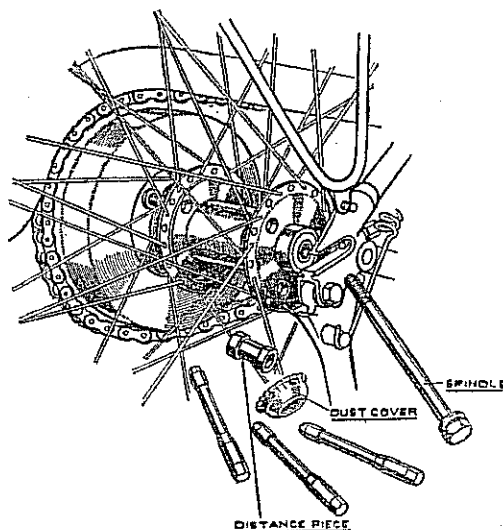

Fig. 40.
70. REMOVAL OF REAR. (Fig. 40.)
To remove the wheel complete with brake drum, remove tail piece of mudguard, rear chain, anchorage bolt holding the brake anchorage arm to the frame and part of the brake rod. (Fig. 40.)